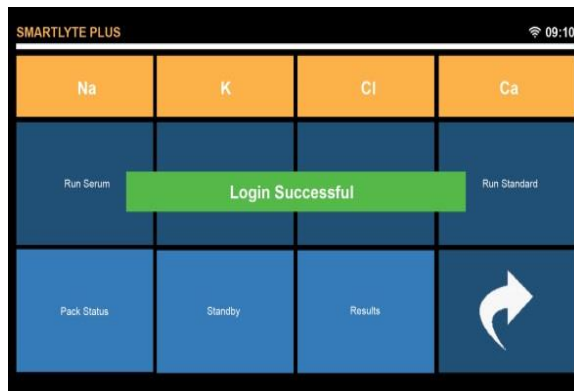

Figure 1-40 Username and password accepted.
- Enter the information for the new administrator, Figure 1-40. At type, select Admin.